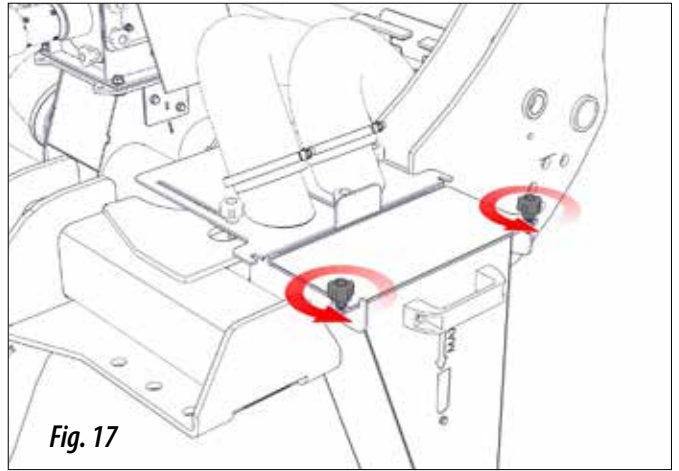
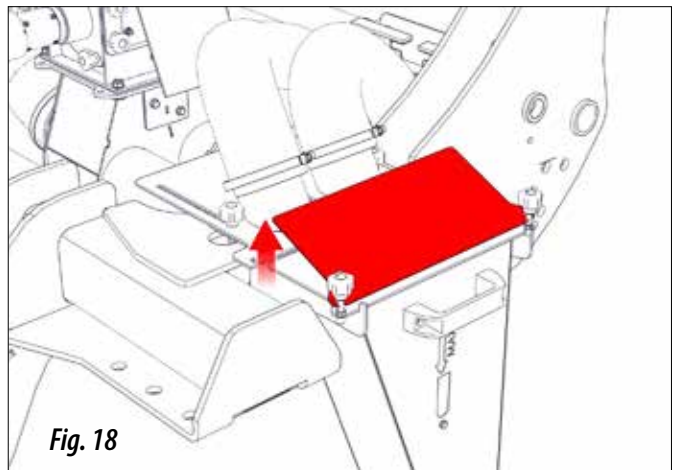

*Fig. 15*
*Fig. 16*
**6-** Enter the locks on the grooves (Fig. 15) and lock the threaded knobs to fix them (Fig. 16).